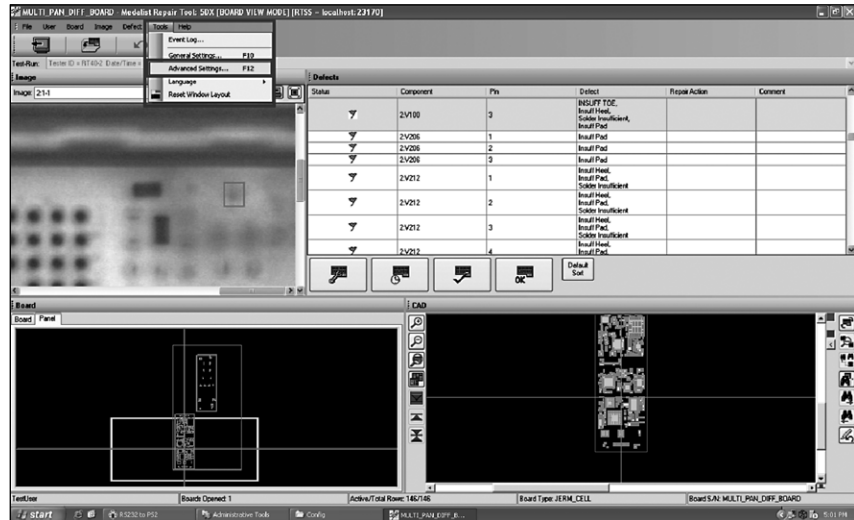

Figure 5: Interface screen shot relating to step 1
1. In the RT4.0 User Interface, go to **Tools > Advanced Settings**, see Figure 5.